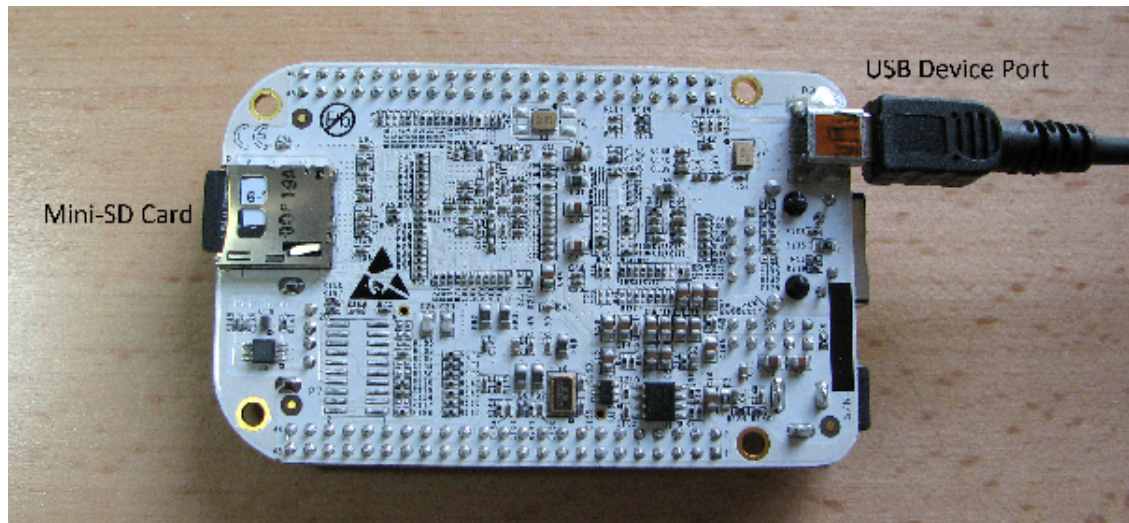

Figure-4: Powering up the Beaglebone
- To power up the beaglebone, connect it to the computer via the usb cable as shown in the Figure -4: